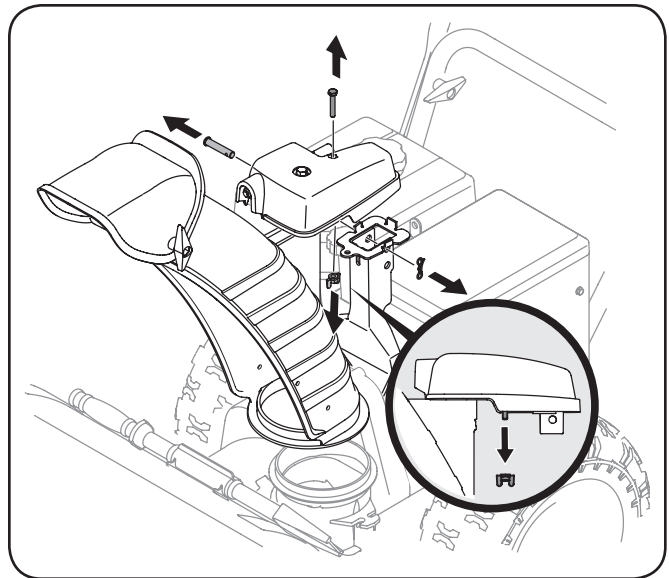

Figure 3-12
1. Remove wing nut and hex screw from chute control assembly and clevis pin and cotter pin from chute support bracket. Position the chute assembly (forward-facing) over the chute base. See Figure 3-12.